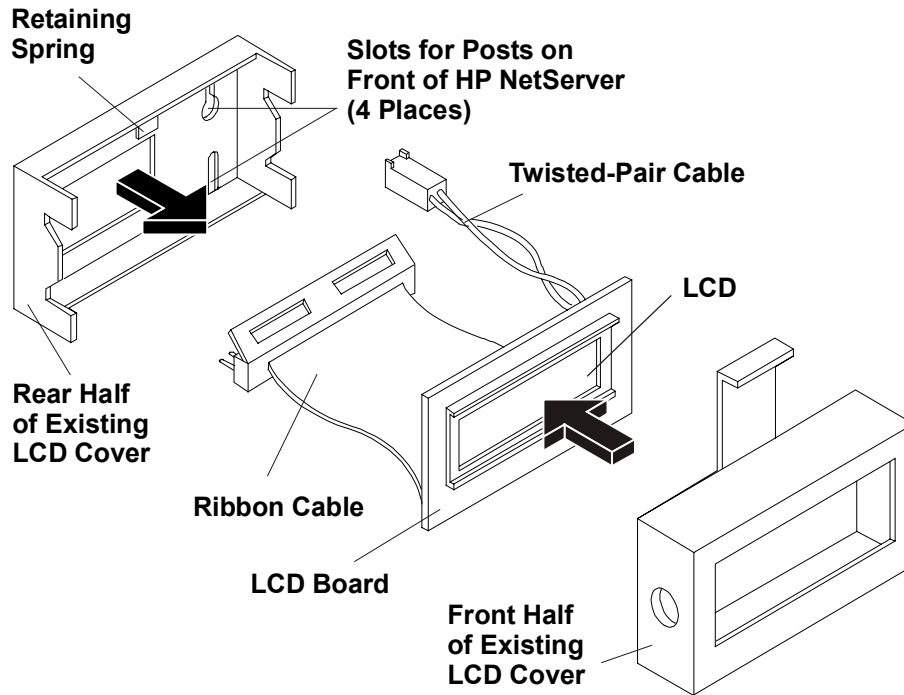

Figure 2-11. Disassembling the Existing LCD Assembly
3. Grasp the LCD assembly with both hands. Pull up firmly on the LCD assembly to lift it as high as possible. You may need to pull quite firmly and wiggle the LCD assembly to overcome the retaining spring shown in Figure 2-11.
5. To disassemble the LCD cover, gently push the face of the LCD into the LCD cover, as shown in Figure 2-11. The front half of the LCD cover detaches completely from the LCD board. Discard the front half of the LCD cover, but retain the LCD board.
6. Gently slide the LCD cables through the rear half of the LCD cover, as shown in Figure 2-11. Discard the rear half of the LCD cover, but retain the LCD board.